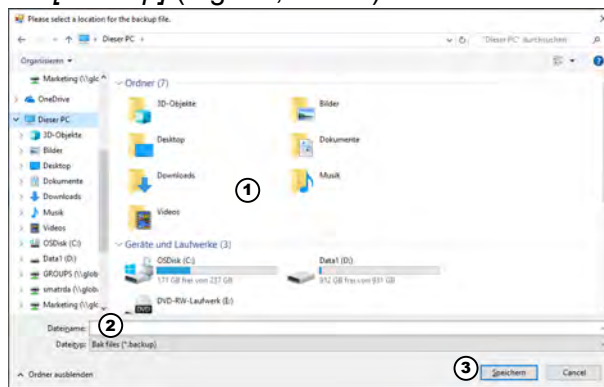

Fig. 54: Select the storage location for the backup file and enter a file name.
4. ➤ Specify a storage location as shown under Fig. 54, item 1.
5. ➤ Enter a suitable name for the backup file as shown under Fig. 54, item 2.
6. ➤ Choose *[Save]* (Fig. 54, item 3).